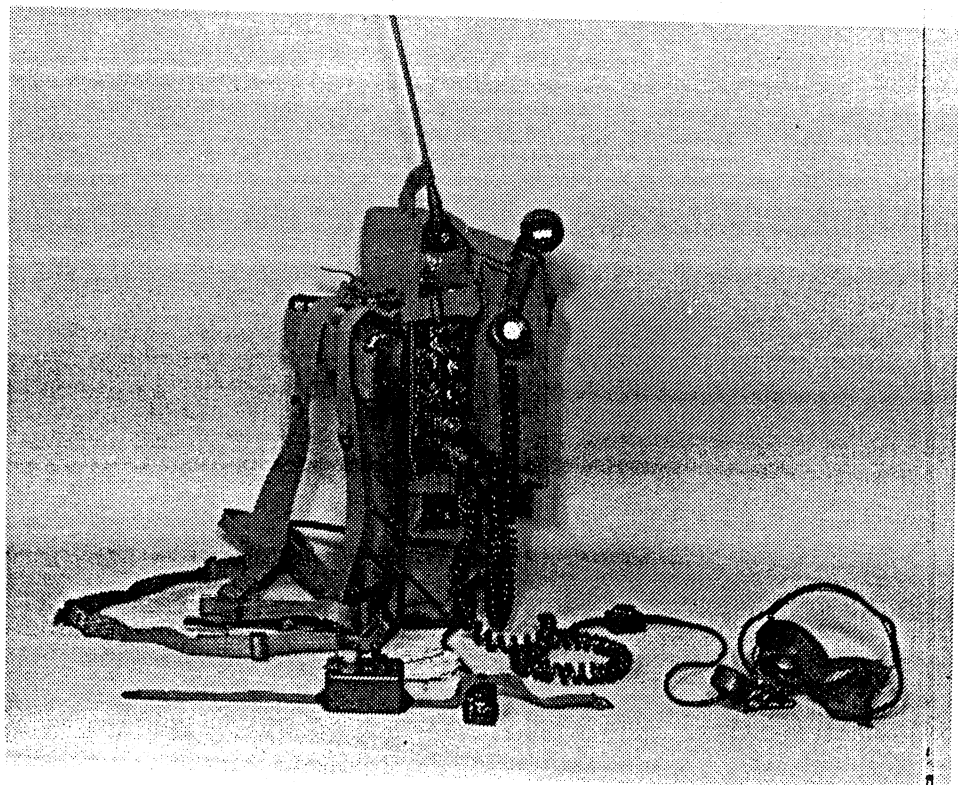

Fig. 2B.3 Manpack Transceiver and Accessories
- 16 These accessories are illustrated in Figure 2B.3